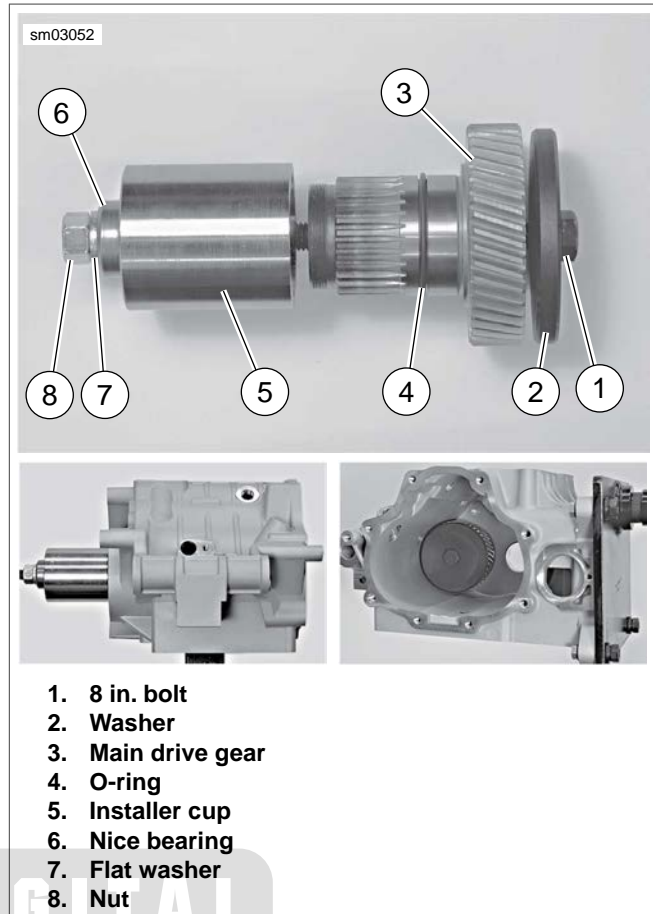

Figure 6-43. Installing Main Drive Gear (Typical)
See Figure 6-43. Make sure **new** o-ring (4) is installed onto main drive gear (3). Lubricate o-ring with clean engine oil before installing drive gear into transmission case.
1. See Figure 6-43. Apply a light coat of graphite lubricant to the threads of 8 IN. BOLT (Part No. HD-35316-4A) (1) and insert through WASHER (Part No. HD-35316-7) (2) and main drive gear (3). Insert assembly into transmission case, through main drive gear bearing.
2. At outside of case, place INSTALLER CUP (Part No. HD-35316-12) (5), NICE BEARING (6), FLAT WASHER (7) and NUT (8) over end of bolt.